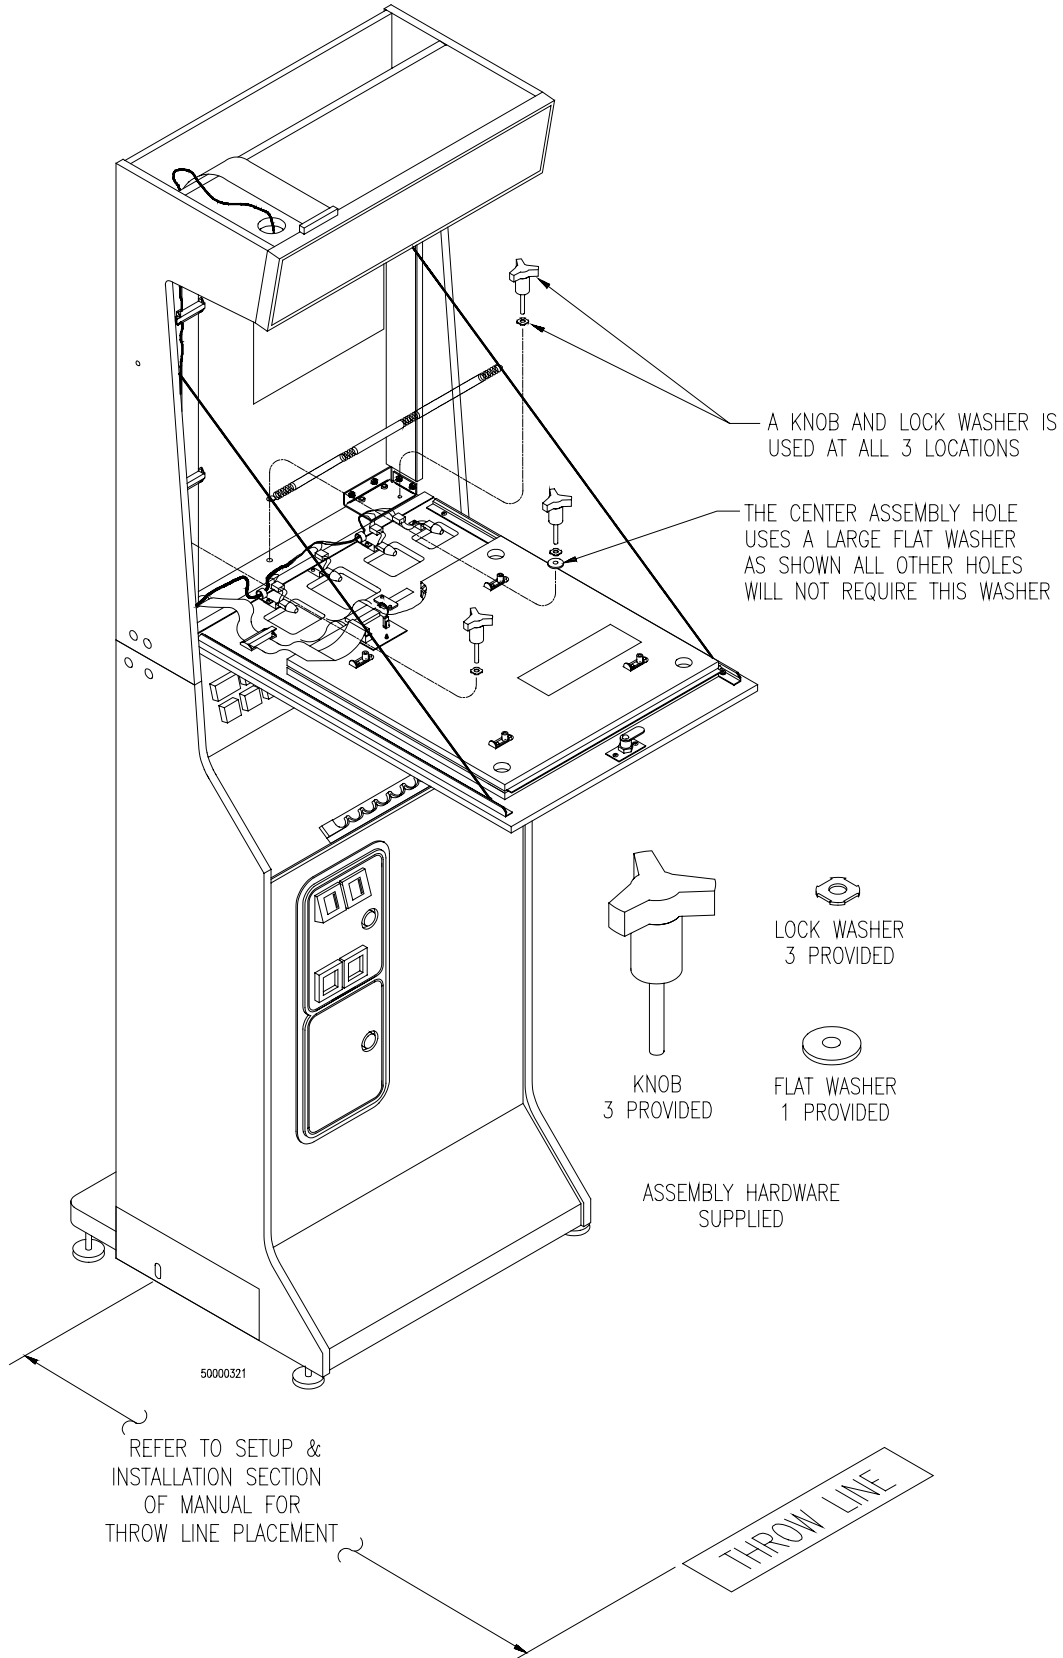

Figure 9 - INTERNAL VIEW - TARGET SECTION (FLOOR MODEL)
3. Use a #564 key to unlock the target door. On the upper, right corner of the target door you will see a safety hook holding the door in its closed position. Push the hook upward to release the target door. Inside, stapled to the floor of the target section, you will find a plastic bag with three threaded knobs. Place the knobs and washers in the holes provided as shown in Figure 9.